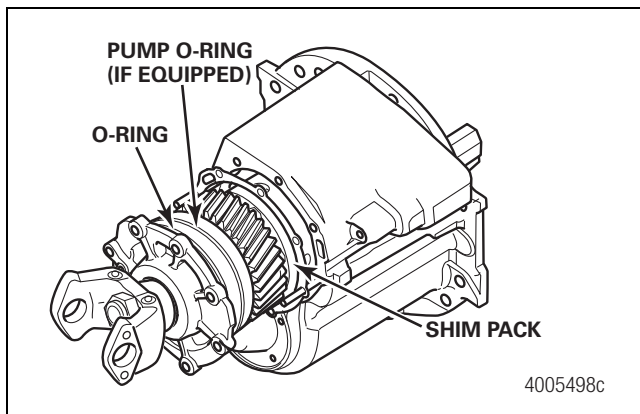

Figure 3
- Remove the O-ring(s) from the input bearing cage and inspect them for cuts and nicks. Figure 3. The O-ring(s) can be removed by stretching them over the input cage and yoke. A nick or cut may indicate the presence of lead in chamfer damage.